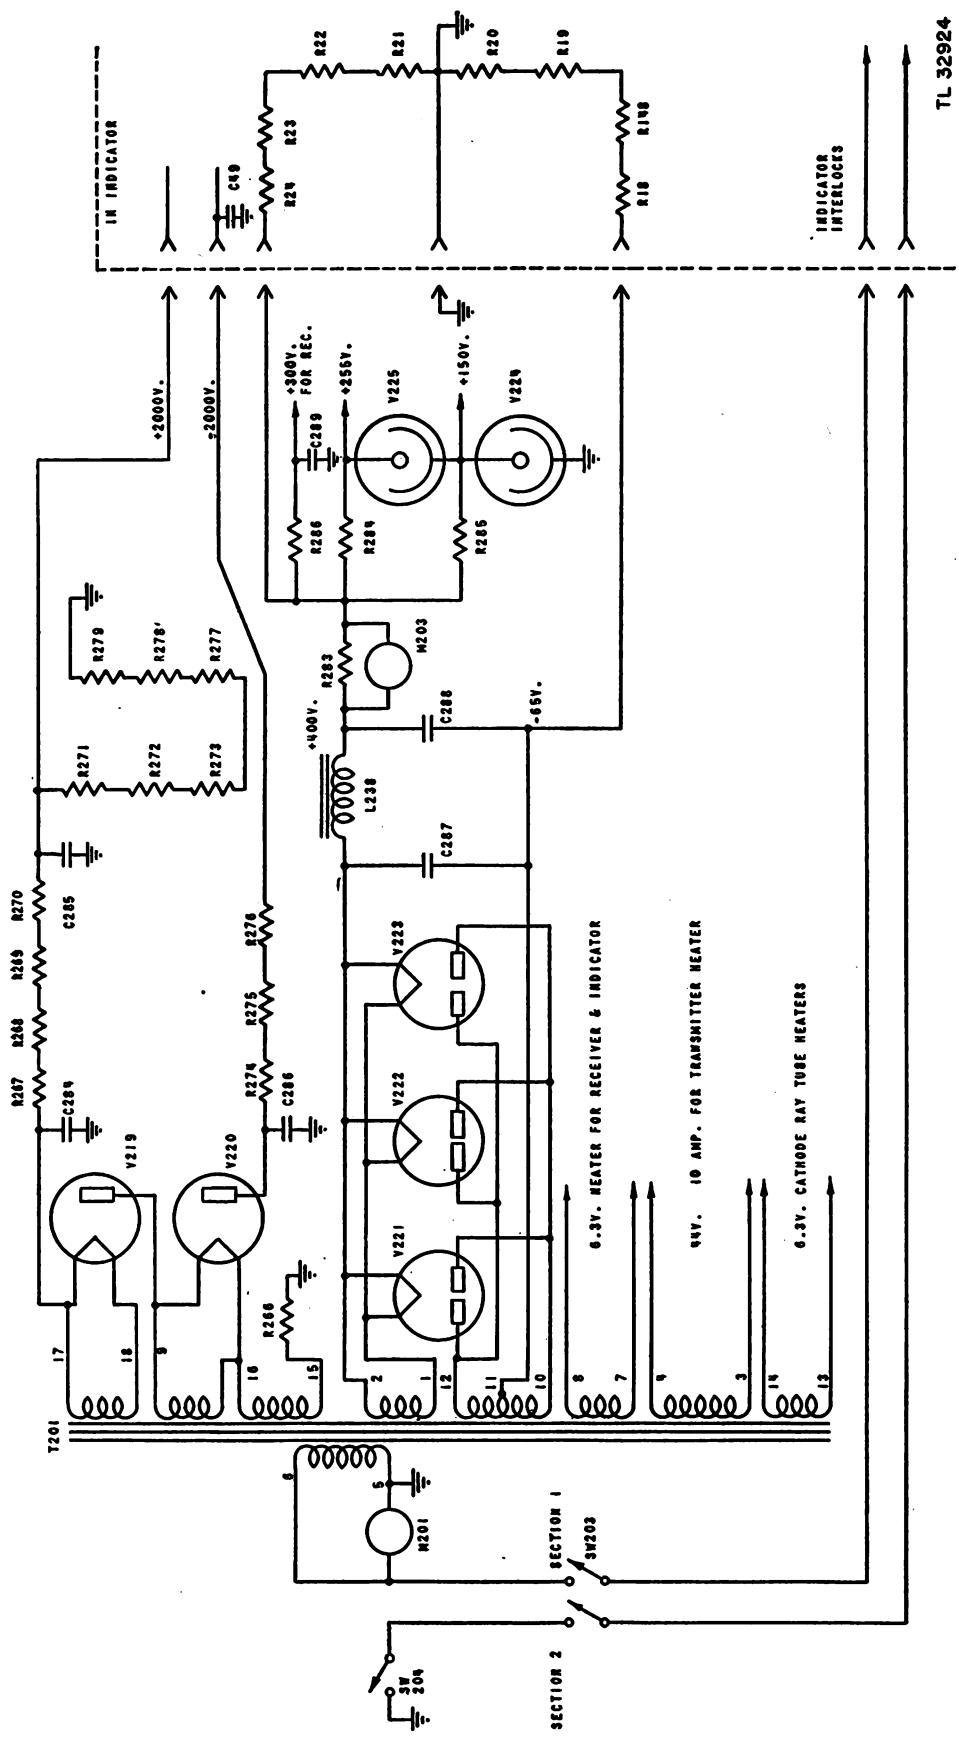

Figure 27. Receiver power supply schematic.
a. General. The power supply (fig. 27) on the receiver chassis supplies the power for operating all components of the equipment, with the exception